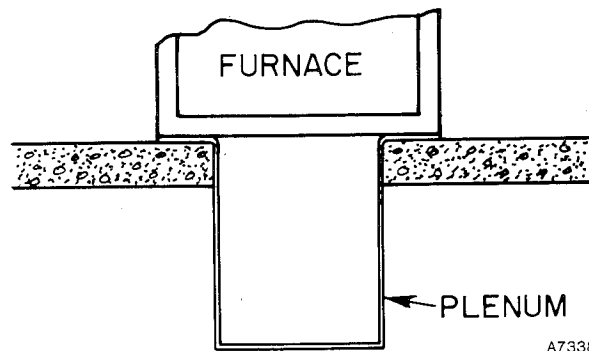

Figure 5—Furnace on a Concrete Slab
3. Place plenum and furnace as shown in Figure 5.